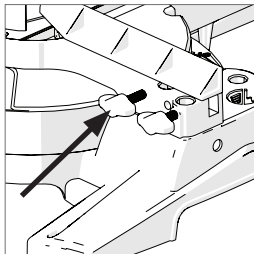

Fig. 11
- Loosen the thumbscrew. (Fig.11)